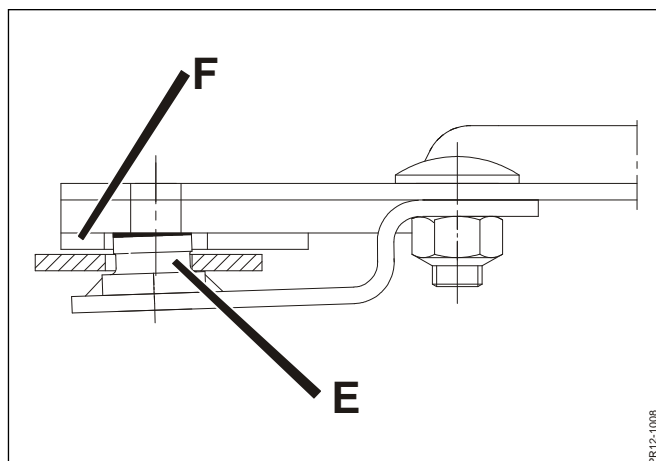

Fig. 5-19
**Fig. 5-19 IMPORTANT:** Make sure that there are no impurities between the contact faces of the blade pin and the disc and that the blade pin E of the blade holder has correct contact with the bottom of the disc F. If the blade pin does not rest against the disc, the blade holder should be replaced.